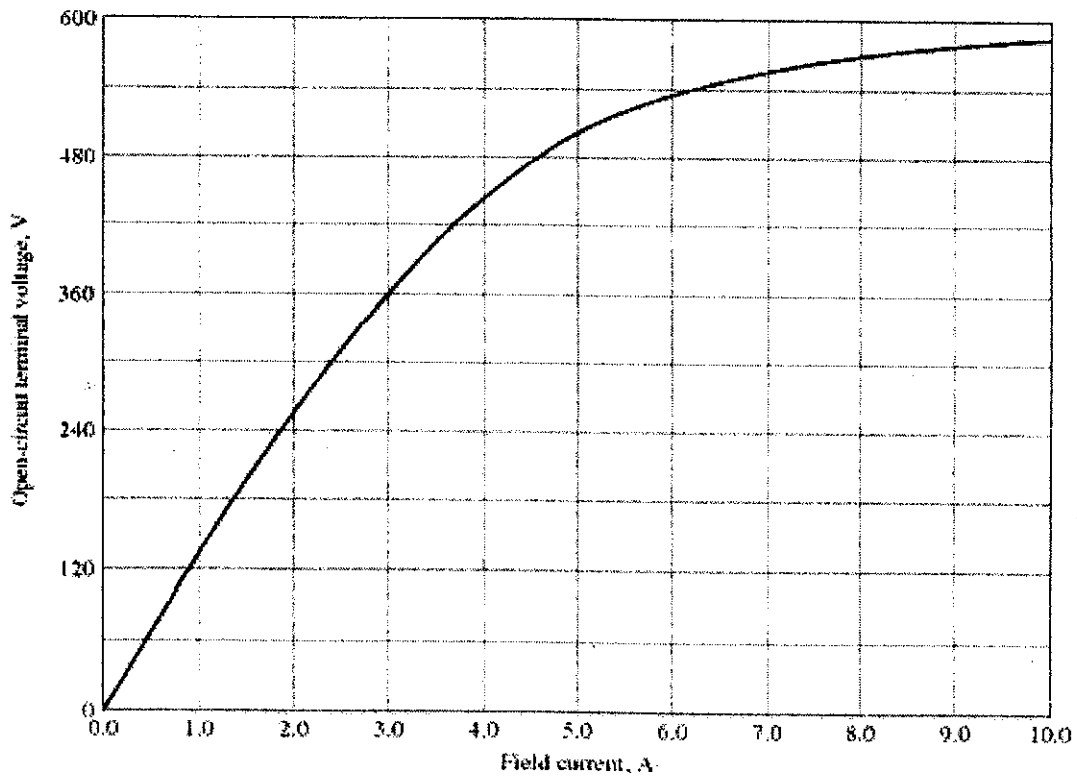

Figure Q5
- b) A 480 V, 210 kVA, 0.8 power factor lagging, 50 Hz, four-pole, Y-connected synchronous generator has a synchronous reactance of 0.25Ω and an armature resistance of 0.03Ω . The field circuit has a DC voltage of 200 V, and the maximum field current is 10 A. The open circuit characteristic curve of this generator is shown in Figure Q5.